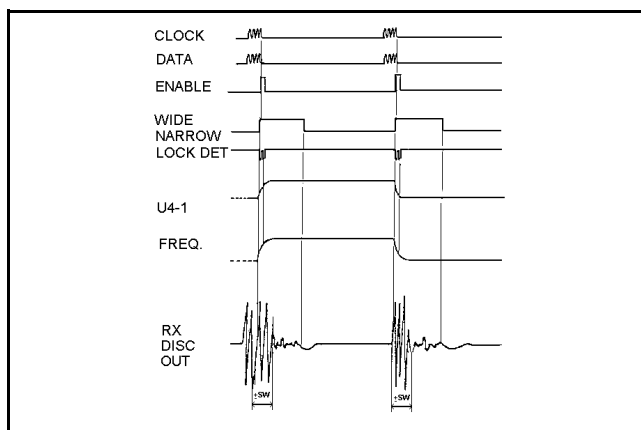

Figure 3 - Channel Switching Sequence
- b. The channel switching sequence and the action of the related functions are shown in Figure 3.